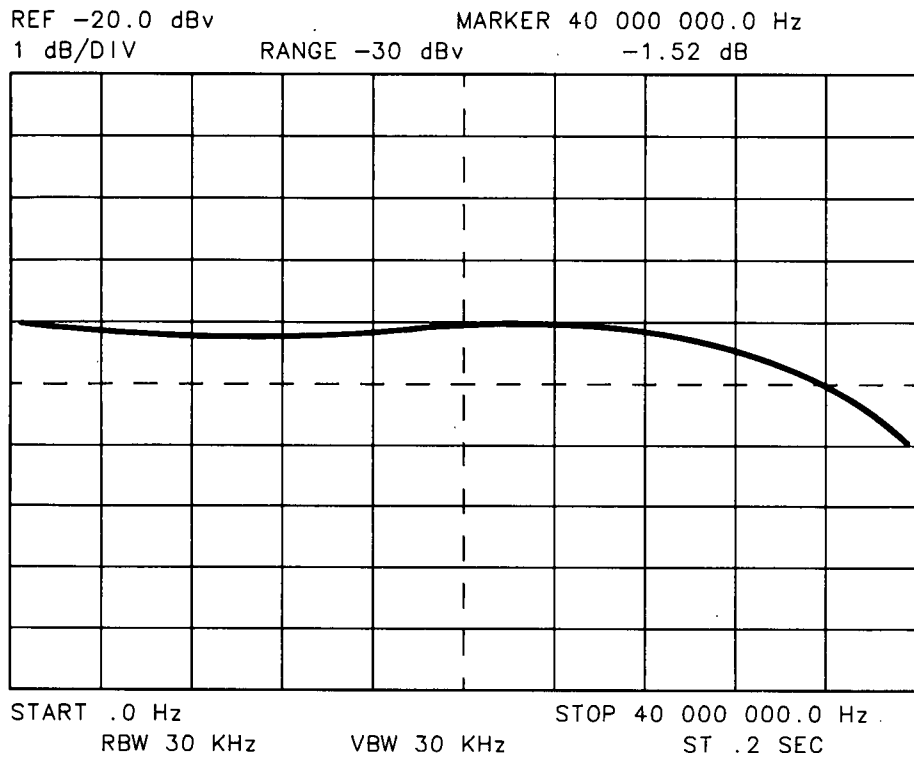

Figure 23. Typical Low-Noise Amplifier Peaking Adjustment
18. Adjust A4C32 using a non-metallic tuning tool. The adjustment is most easily done by setting the RF spectrum analyzer to local (press the LOCAL key) then moving the marker with the knob. The adjustment is correct when the level of the highest point on the trace is opposite and equal to the lowest point (usually 40 MHz). A typical adjustment is shown in Figure 23.